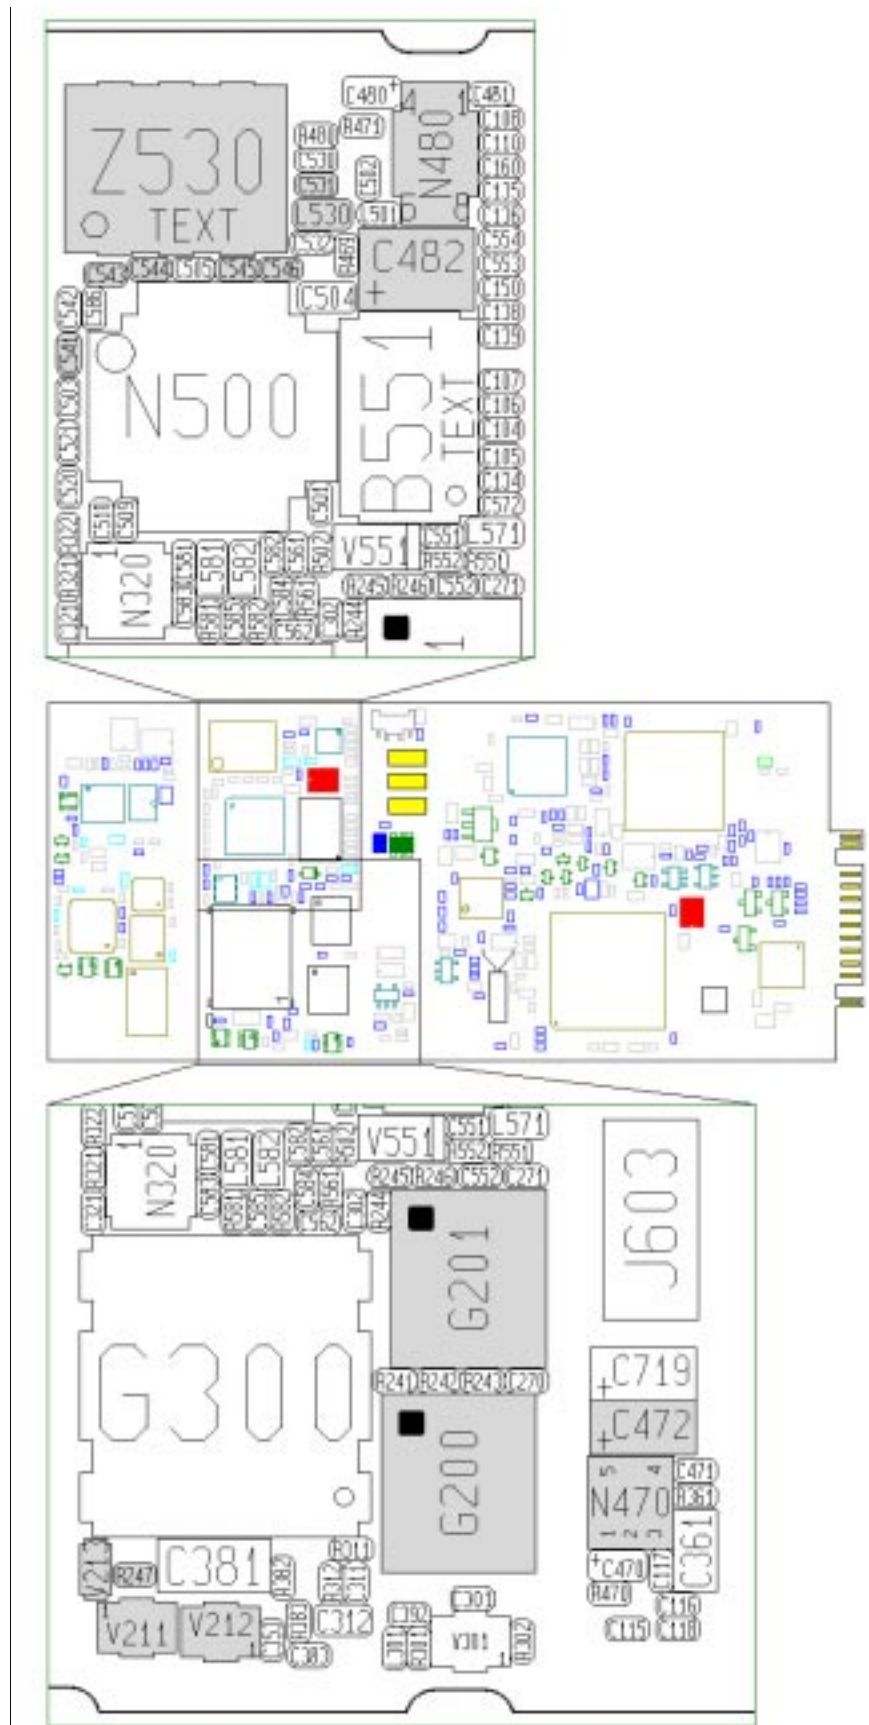

Fig. 2.3
Measure the VVCO voltage at pin 5 of N470 (fig. 2.3, $\sim 3.8\text{V}$).
- If the voltage is too low, replace N470 and C472 (both of class A and in fig. 2.3).
Measure the resistances of C541-C546 ($>200\text{ kohms}$, fig. 2.3).
Check the solderings of Z530, C531 and L530 (fig. 2.3).
Measure the VRAD voltage at C482 (~3.8V, fig. 2.3).
- If the voltage is incorrect, replace N480 (class A, fig. 2.3).
Measure the voltage drop of the V213 diode (~0.6V, fig. 2.3, class A).
Measure the resistance of R247 (~33 kohms, class A, fig. 2.3).
Measure the voltage at pin 3 of G201 (fig. 2.3) when you're starting the phone. There should be a voltage peak of ~3.5V.
- If there is no voltage peak, replace V211 (class B), V212 (class B) and C271 (class A, all in fig. 2.3).
- If there is no voltage peak, replace V211 (class B) and C270 (class A, both in fig. 2.3).